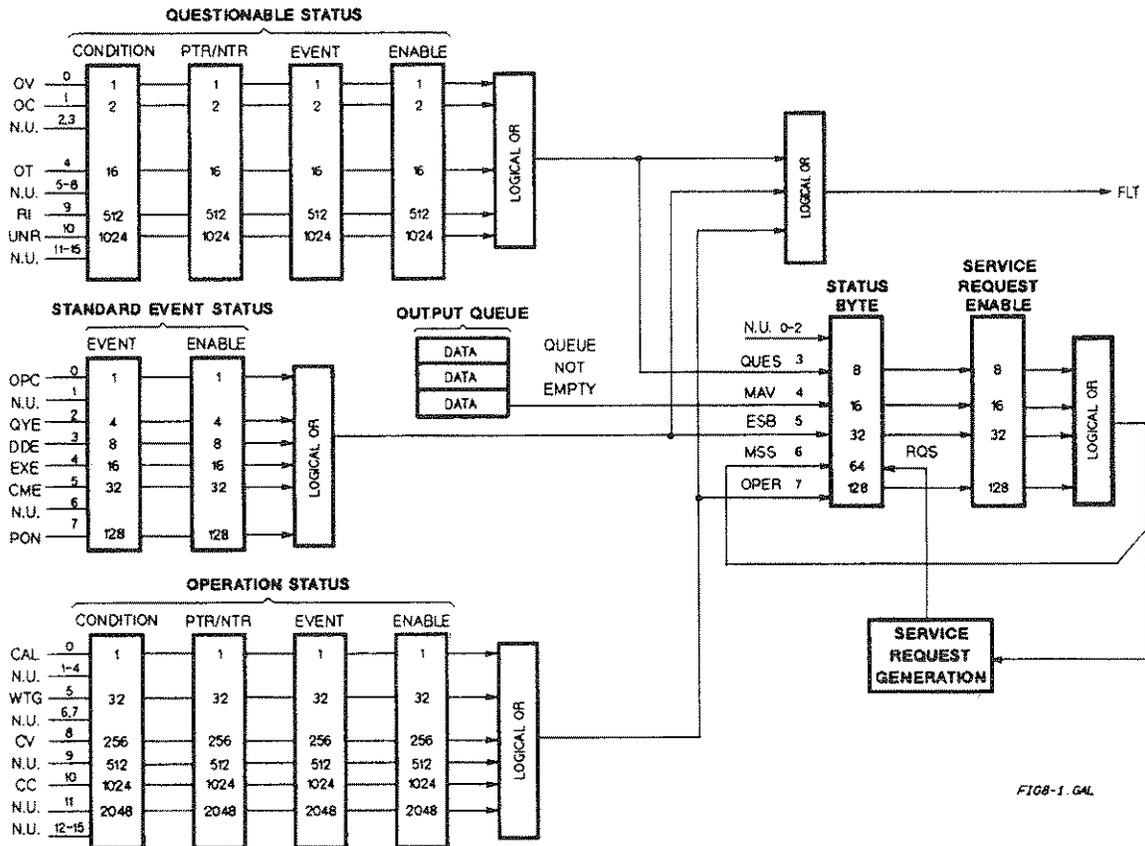

Figure 4-1. Power Supply Status Model
Figure 4-1 shows the status register structure of the power supply. The Standard Event, Status Byte, and Service Request Enable registers and the Output Queue perform standard GPIB functions as defined in the *IEEE 488.2 Standard Digital Interface for Programmable Instrumentation*. The Operation Status and Questionable Status registers implement status functions specific to the power supply. Table 4-2 and Figure 4-1 show the bit configuration of each status register.
The Questionable Status registers record signals that indicate abnormal operation of the power supply. As shown in Figure 4-1, the group consists of the same type of registers as the Status Operation group. The outputs of the Questionable Status group are logically-ORed into the QUES(tionable) summary bit (3) of the Status Byte register.
This example assumes you want a service request generated whenever the power supply switches to the CC (constant current) mode. From Figure 4-1, note that the required path is for a condition at bit 10 (CC) of the Operation Status register to set bit 6 (RQS) of the Status Byte register. The required register programming is shown in Table 4-5.
Whenever a fault is detected in the power supply, it is capable of generating a FLT signal at the digital port (see "Appendix D - Digital Port Functions" in the power supply Operating Guide). The source for the DFI signal can be any Questionable, Operation, or Standard Event status event (see Figure 4-1).